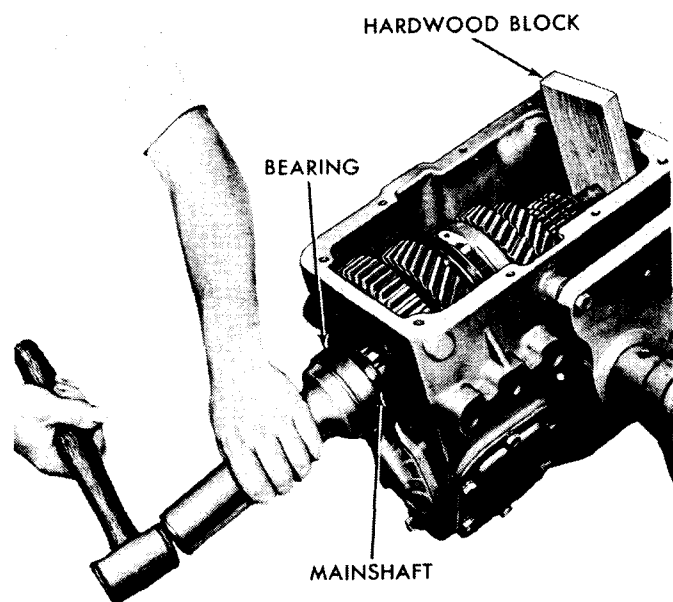

Fig. 11—Installing Mainshaft Rear Bearing
(1) Carefully lower rear end of mainshaft into case while holding first speed gear and spacer washer from slipping off shaft.
(2) Place a hardwood block at the front of the mainshaft and drive the mainshaft bearing onto the shaft (Fig. 11) and into case.